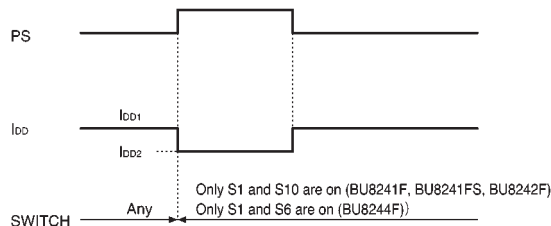

Fig. 3 Power save mode timing waveform
(3) The power save mode is set as long as the PS pin is kept HIGH. (See Table 2 for the power save setting logic.) In the power save mode, the following are fixed : IN1 → OUT1 (S1 = ON) and IN2 → OUT2 (S10 = ON). (The other 62 switches are off.) In addition, the line current is reduced. When the PS pin goes from HIGH to LOW, the IC state switches from the power save mode back to normal operation. At that point, the state of the switch remains in the power save mode (only S1 and S10 are on). (See Figure 3 for the timing waveform in the power save mode.)
(4) With the BU8242F, of the 64 data bits, the following should be input at LOW level : D3, D4, D11, D12, D17 to D32, D35, D36, D43, D44, D51, D52, D59, and D60.
(5) With the BU8244F, DIN is 16 bits. The ON path in the power save mode is the same for the BU8241F and BU8241FS, but the pertinent switches are S1 and S6.